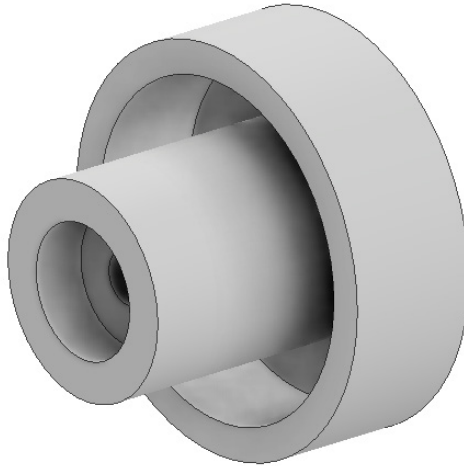

Figure 2-106 The model created on revolving the sketch
3. Accept the default values and choose the **OK** button from the **Properties-Revolution** dialog box. The revolved model is shown in Figure 2-106.